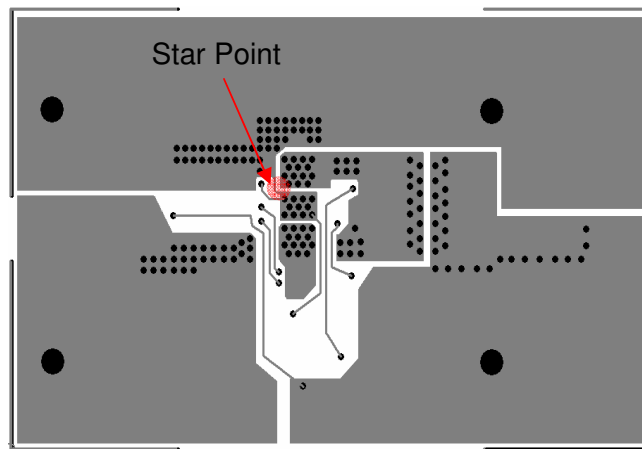

Figure 3 Common Connection point for Pgcd and Gnd
- 4) P_{gnd} and G_{nd} should be kept as separate nets, with a single common connection (star), made by a short track from P_{gnd} to G_{nd} power pad under the device (Figure 3).